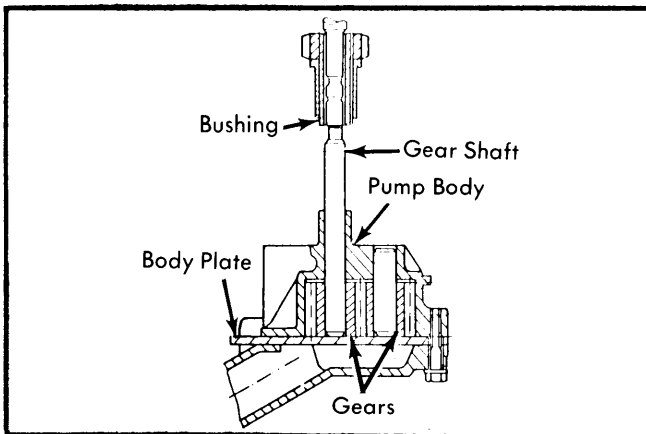
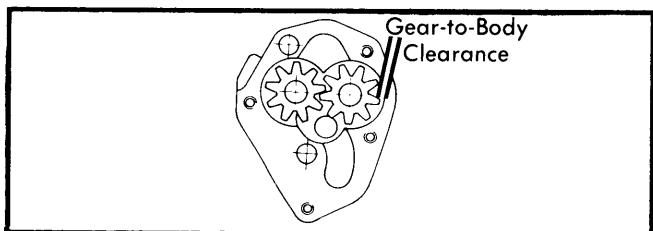

Fig. 13 Oil Pump Components
Fig. 14 Checking Oil Pump Gear Side Clearance
2) Remove pump from vise and remove gears from pump body. See Fig. 13. Inspect gears for scoring or "steps" and replace if necessary. Check side clearance between gears and pump body. See Fig. 14. Excessive clearance indicates wear to drive gear shaft in the pump body or between the driven gear and its shaft.